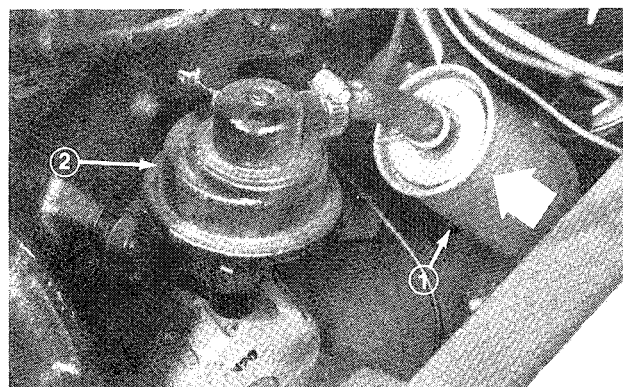

Figure 37
1. Remove hose clamps from both ends of filter and pull hoses off filter (Fig. 37).